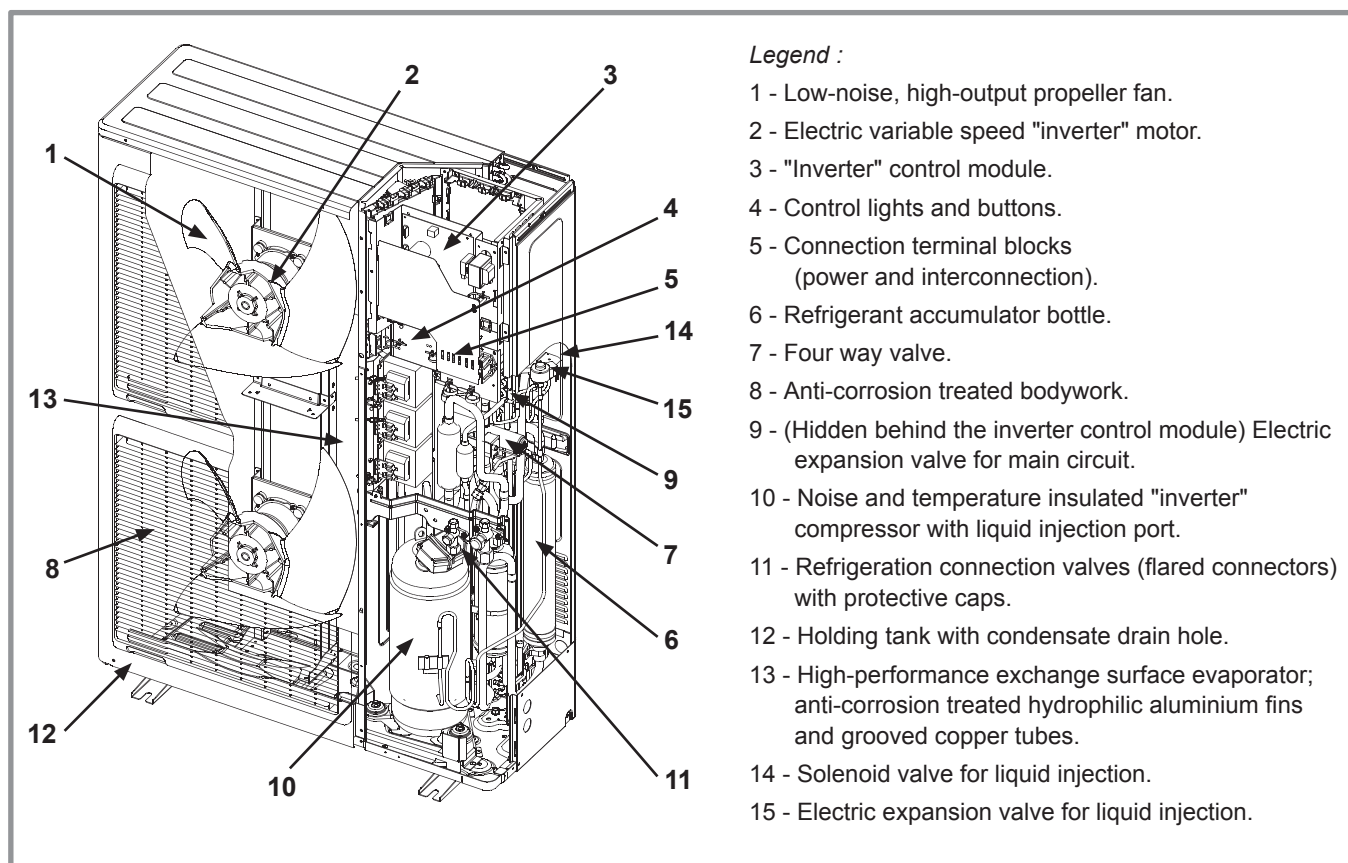

Figure 7 - Outdoor unit components
- In the evaporator (rep. **13**, figure 7, page 10) :
- In the compressor (rep. **10**, fig 7, page 10) :
- In the expansion valve (rep. **9**, figure 7, page 10) :